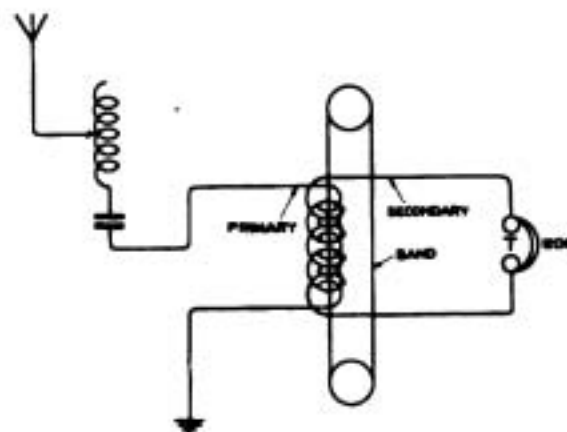

Fig. 13.
F.B. (Portsmouth).—(1) The magnetic detector is practically useless for an amateur aerial, except perhaps for extremely strong signals. The inductance required to tune to any wavelength limits the current, so that the detector is very inefficient. You will do well to try a crystal set.
(2) The magnetic detector is usually connected in a circuit as in Fig. 13.